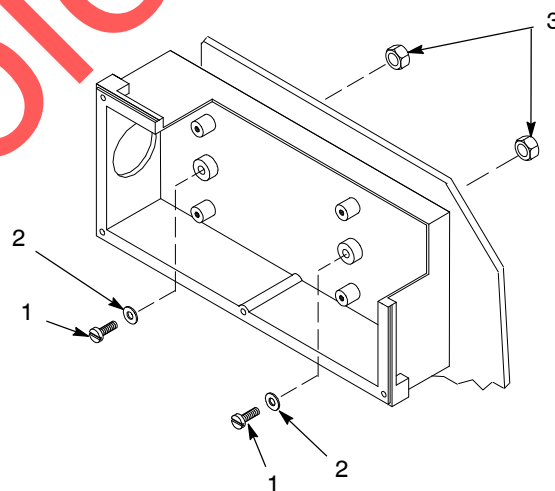

Figure 4 Surface Mounting
1. See Figure 4. Place the enclosure against the mounting surface.
4. Use the screws (1), washers (2) and nuts (3) included with the controller to secure the enclosure to mounting surface.